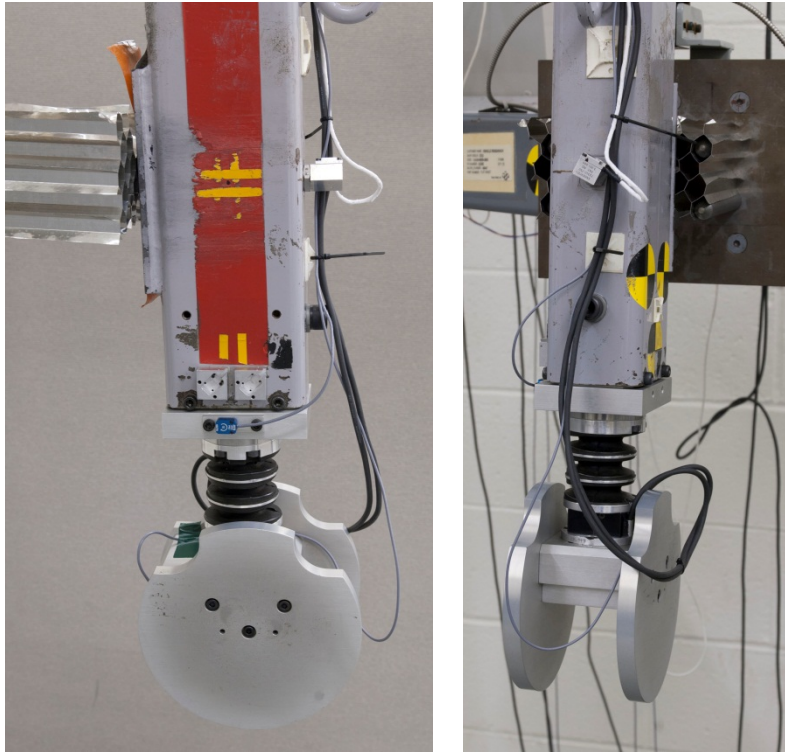

Figure 34. Install hexcell to pendulum
- Install the proper size hexcell to meet the pulse requirements specified in Table 2 (Figure 34).